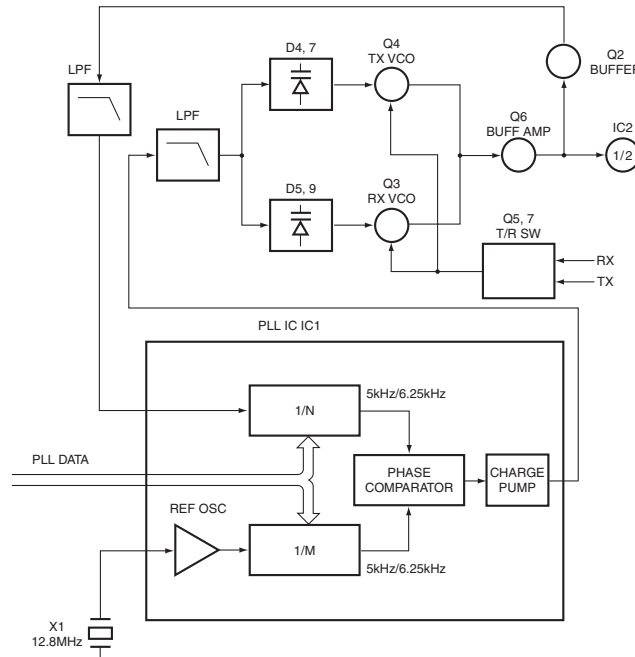

Fig. 5 PLL circuit / 图 5 PLL 电路
A 12.8MHz reference oscillator signal is divided at IC1 by a fixed counter to produce an oscillator (VCO) output signal which is buffer amplified by Q2 then divided in IC1 by a programmable counter. The divided signal is compared in phase with the 5 or 6.25kHz reference signal from the phase comparator in IC1. The output signal from the phase comparator is filtered through a low-pass filter and passed to the VCO to control the oscillator frequency. (See Fig. 5)
12.8MHz 的参考振荡信号在 IC1 中被一个固定计数器分频。振荡器 (VCO) 的输出信号由 Q2 缓冲放大，然后在 IC1 中 被一个可编程双模块计数器分频。分频的信号在 IC1 的相位比较器中进行比较。生成的信号通过一个低通滤波器滤波后传送到 VCO 控制振荡器频率。(见图 5)